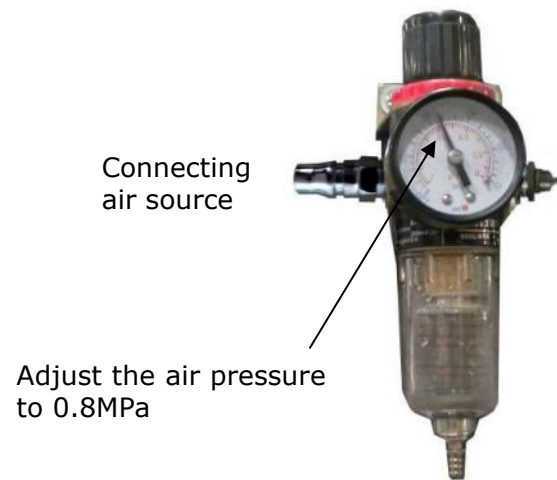

Fig. 17
5.Connecting the air source (air pressure 5kg/cm²- 8kg/cm²), adjust the air pressure to 0.8MPa (**See Fig. 17**).